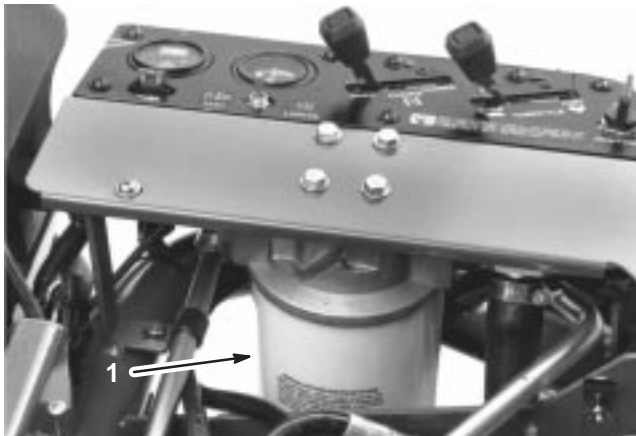

Figure 45
2. Clean the area around the filter mounting area (Fig. 45). Place a drain pan under the filter and remove the filter.